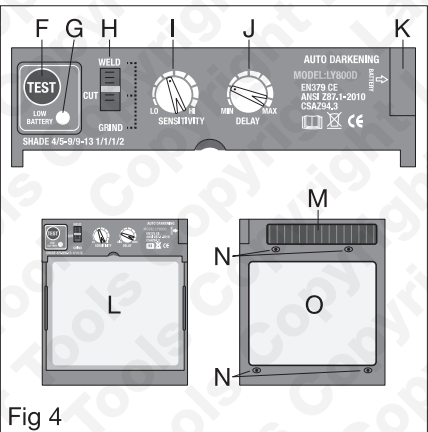

Fig 4
CAUTION: Test the auto-darkening function of the helmet before welding: Refer to **Figure 4**: Press the TEST button **(F)** - the lens filter **(O)** should instantly darken. If it does not, do not use the helmet and investigate the fault.
Refer to **Figure 4**: the mode selector (WELD, CUT, GRIND) (**H**) is located on the upper section of the lens filter cartridge and accessed from inside the helmet.
Refer to **Figure 4**: the lens sensitivity adjuster (**I**) is located on the upper section of the lens filter cartridge and accessed from inside the helmet. This control allows the auto-darkening function of the lens to be more responsive to the various light levels in different welding situations. The lower positions (control turned anticlockwise) are more suitable for higher amperage welding; the higher positions (turn control clockwise) are more suitable for low amperage welding (this will detect a weaker arc).
Refer to **Figure 4**: the lens delay adjuster (**J**) is located on the upper section of the lens filter cartridge and accessed from inside the helmet. This control allows the user to set the delay time from dark to light. The adjuster operates (short delay to longer delay) over the range 0.1 – 0.8 seconds. As an example, when the arc light is very strong it takes more time to go off. In this case, a longer delay time is necessary so that the user can stay protected until the arc has subsided. A shorter delay time would be used for spot welding, to improve the work efficiency and speed of moving onto the next spot weld.
Refer to **Figure 4**: The low battery warning light (**G**) is located on the upper left-hand section of the lens filter cartridge. If the warning light illuminates, do not use the helmet.
If the front lens cover is excessively spattered, scratched or damaged, it must be replaced immediately as this could compromise the action of the auto-darkening sensors (**N** in **Figure 4**). Access the securing clips from inside the helmet. Replace with a new cover (**Laser Tools part number 61488**). DO NOT attempt to clean the front lens cover with solvents or abrasive cleaning products.
- Always test the auto-darkening function of the helmet before welding. Refer to Figure 4: Press the TEST button (**F**) — the lens filter (**O**) should instantly darken. If it does not, do not use the helmet.
- To ensure the auto-darkening system is working correctly, ensure the auto-darkening sensors (**N** in **Figure 4**) are clear and unobstructed.